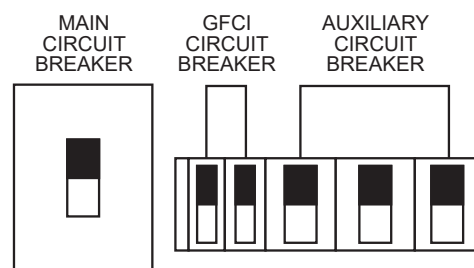

Figure 55. Main, Auxiliary, And GFCI Circuit Breakers (ON)
12. Place the **main, auxiliary, and GFCI** circuit breakers in the **ON** position (Figure 55).